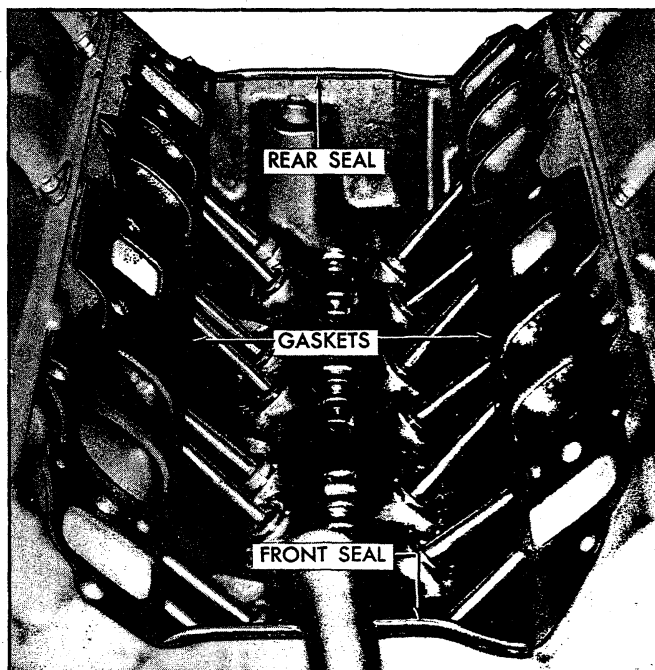

Fig. 2V - Intake Manifold Gasket and Seal Location
2. Install manifold end seals on block as shown (fig. 2V).
3. Install side gaskets on cylinder heads using sealing compound around water passages (fig. 2V).